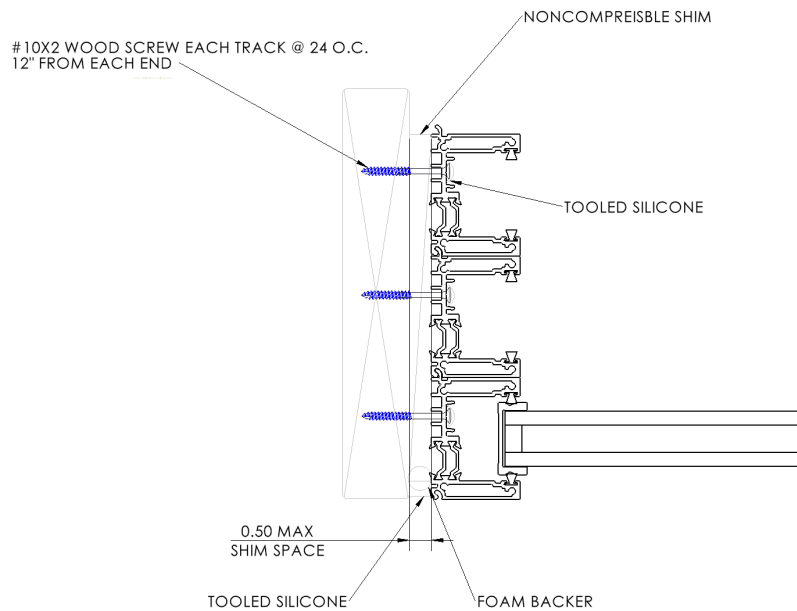

Figure 3
- Jambs: Holes should be drilled 12" from each end and every 24" on center per track. (See Figure 3).